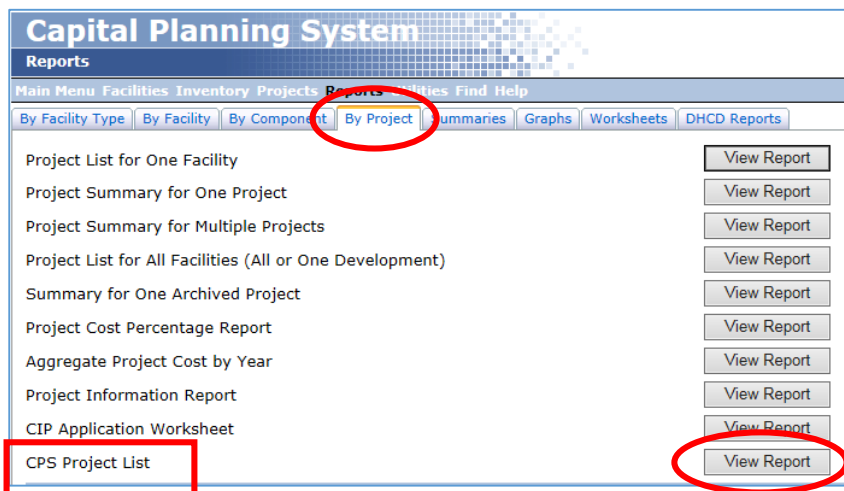
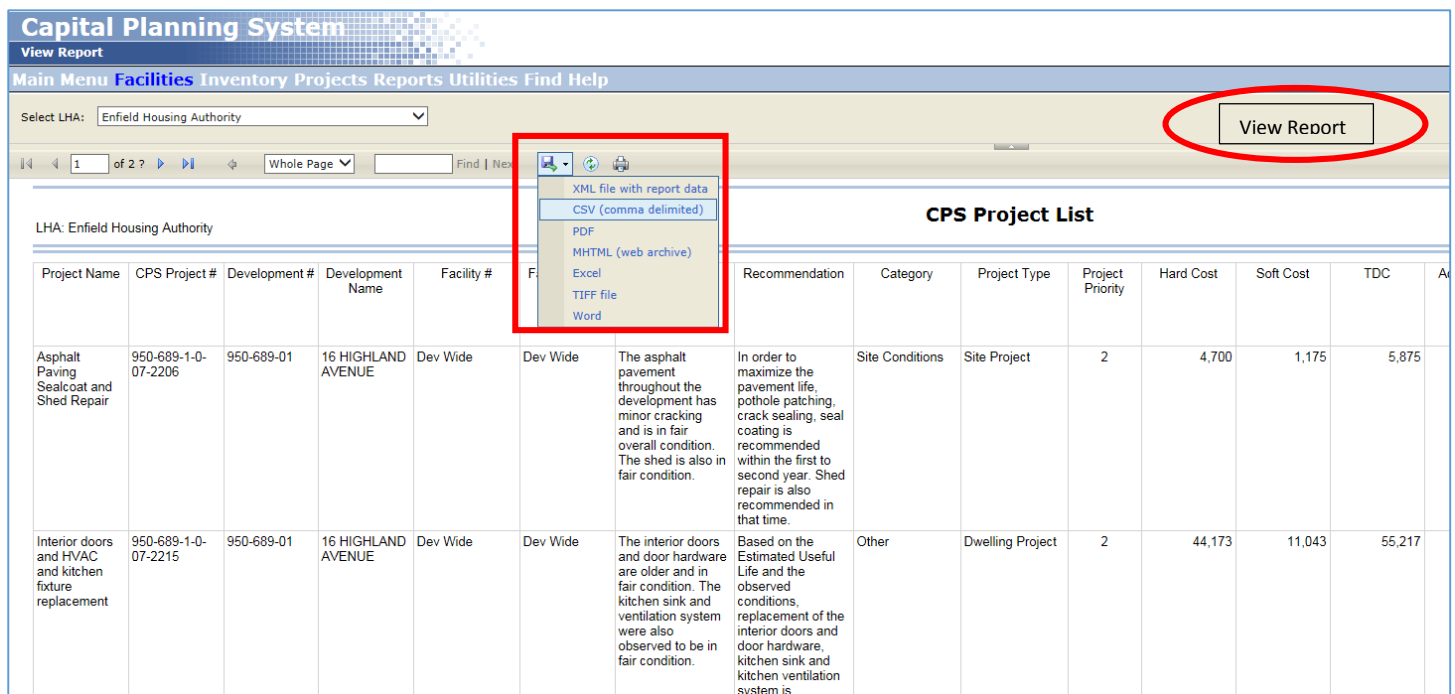

Figure 1
Figure 2
3. **New “CPS Project List” report**– Located in the “Reports” section of the CPS in the “Projects” tab (Figure 1) this report shows a summary of all projects both proposed and archived for general planning purposes. The report shows all projects for all developments at the LHA and can be exported as a PDF or Excel document (Figure 2). To view the report click the “View Report” button (Figure 2). If you want to export
the report to PDF or Excel click the file Icon  and choose the PDF or Excel selection and then click the “View Report” button. (Figure 2) (Note: if the report is exported as an Excel document it may require some formatting in Excel in order to print it out.)